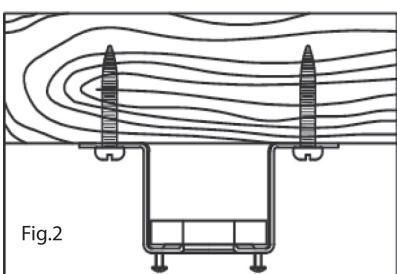

Fig.2
2) Wooden ceiling: fix the mounting bracket to the wooden ceiling with (thickness of at least 7 cm) 4 wooden screws. (fig. 2)